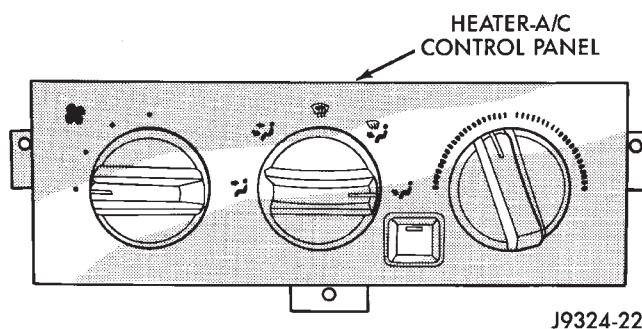

Fig. 2 Heater-A/C Control Panel
- (4) Remove center bezel.
- (5) Remove the control panel screws (Fig. 2).
- (6) Remove the control panel.